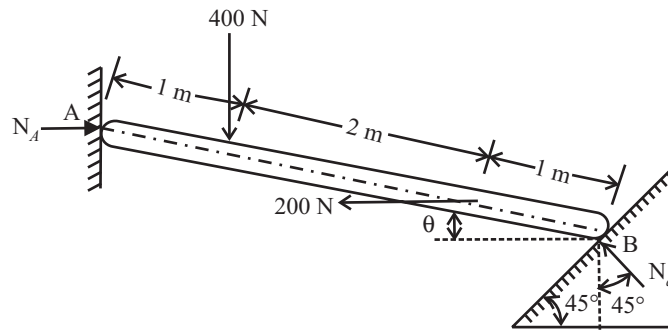

Fig 1
- Q.1.** A bar 4 m long and of negligible weight is acted upon by a vertical load of 400 N and a horizontal load of 200 N applied at positions as shown, in Fig. 1. The ends of the bar are in contact with, a smooth vertical wall and a smooth incline. Determine the equilibrium position of the bar as defined by the angle θ , it makes with the horizontal. (ANS : $\theta = 28.6^\circ$)